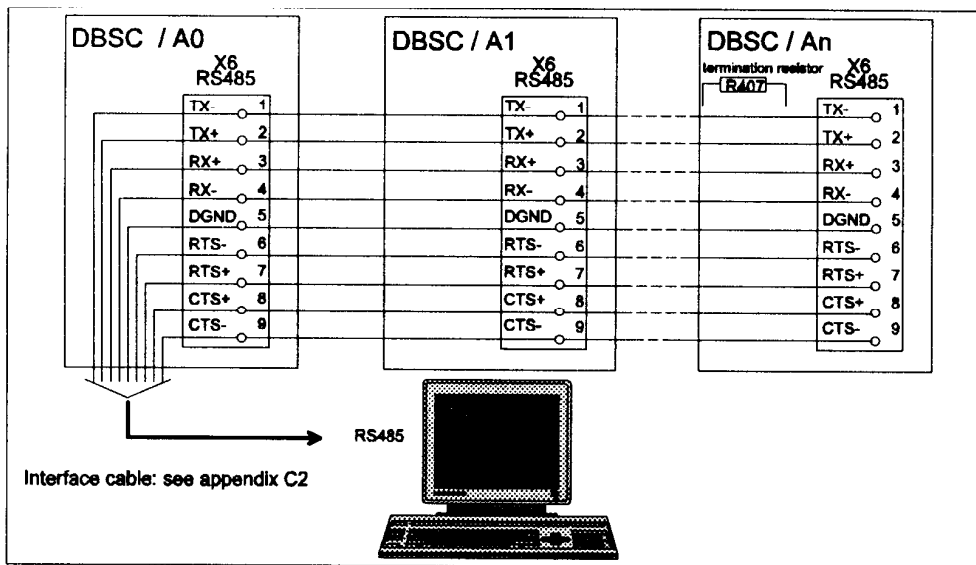

Figure 3.2: Wiring principle for RS485 multi-drop
- **Multi-drop:** This configuration is obtained by making a parallel connection of the PC to connector X6 of each DBSC. Connector X5 is **not** used. Also jumpers SB501 to 510, solder bridge LB304 as well as DIP switches AS1 to AS4 must be set in accordance with the desired configuration. Note that multi-drop is possible for RS485 only. Refer to figure 3.2, and table 3.1 for wiring principle, and also to paragraphs 6.1.2 and 4.3 in the "Installation and Instruction Manual".